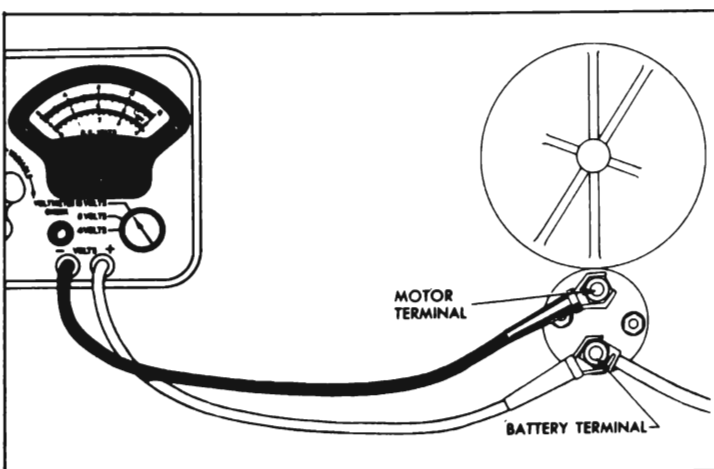

Figure 10-28—Solenoid Switch Contact Test Connections
6. With voltmeter switch turned to any scale above 12 volts, connect voltmeter negative (–) lead to the motor terminal of solenoid switch, and connect positive (+) lead to battery terminal of switch. See figure 10-28.